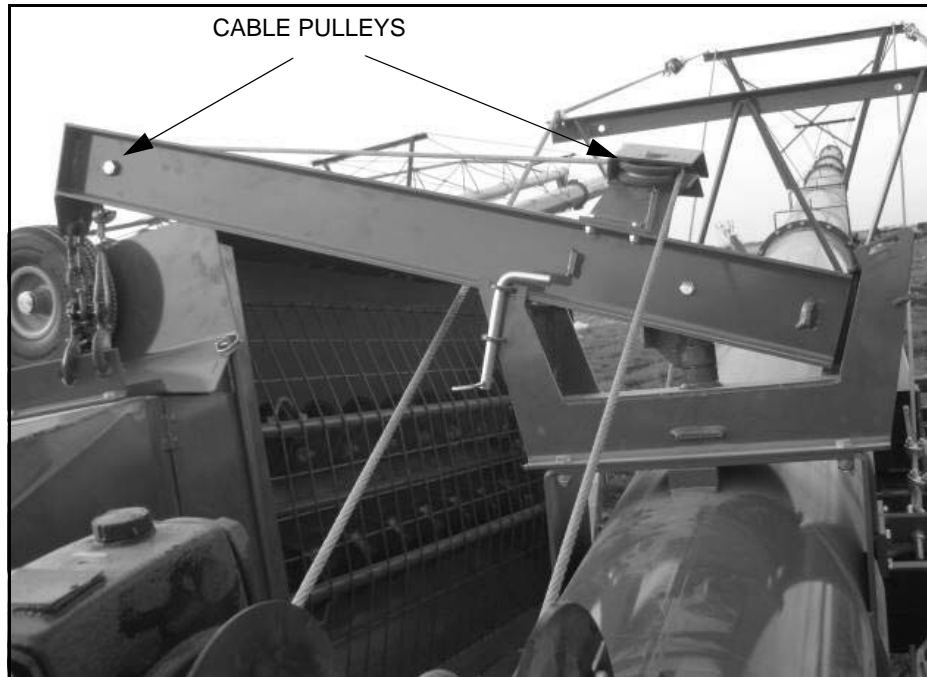

Figure 7.3 Cable Pulleys
- Oil cable pulleys as needed (Figure 7.3)